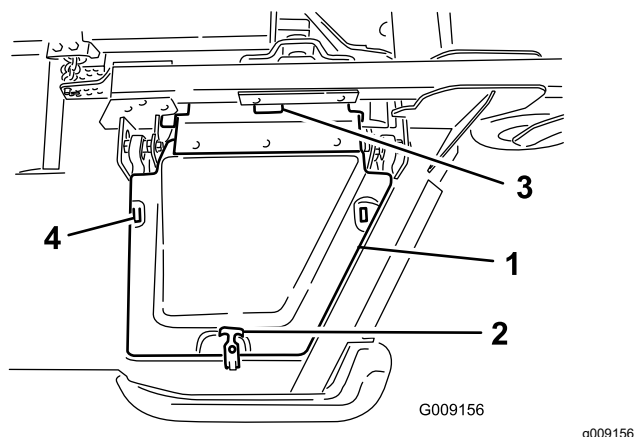

Figure 6
8. Install the winglet-deck cover and secure it with the rubber latch (Figure 6).